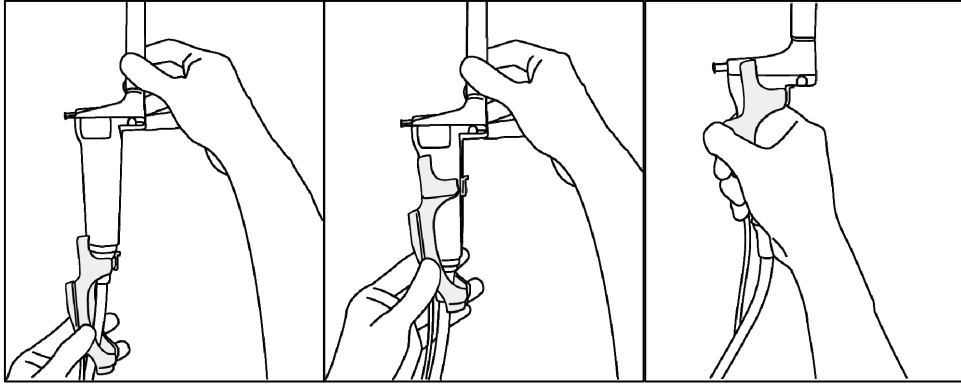

Fig.9 How to attach the Magnetic sensor attachment
c) Attach the Magnetic sensor attachment to the probe as shown in Fig.9.